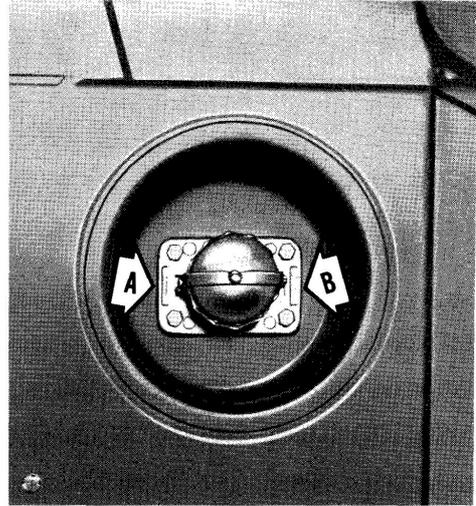

Fig. 10. Slave receptacle installed. (A) Negative side. (B) Positive side.
- b. Install the slave receptacle as shown in Fig. 10 with the negative lead toward the rear of the vehicle and the positive toward the front.